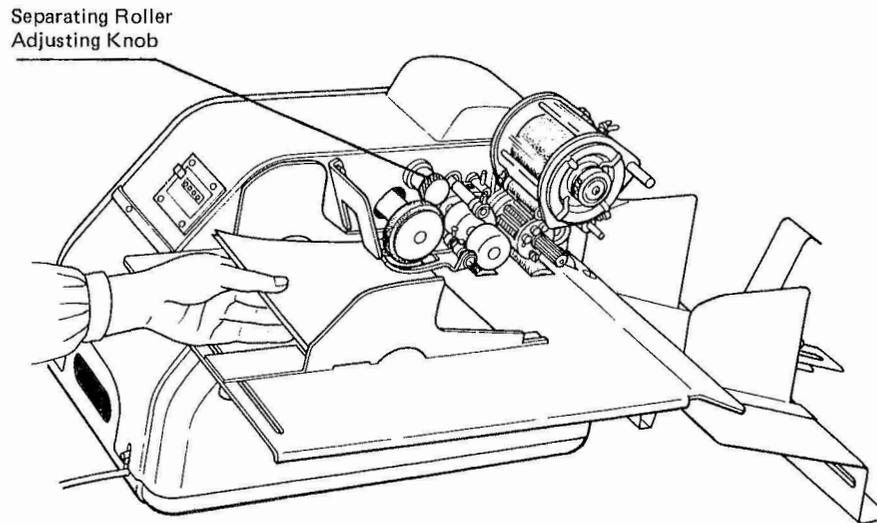

Fig. 16
1) Separating Roller. (See Fig. 16)
- b. Insert two sheet thicknesses between the separating roller and the feed rubber belt as shown in Figure 16.